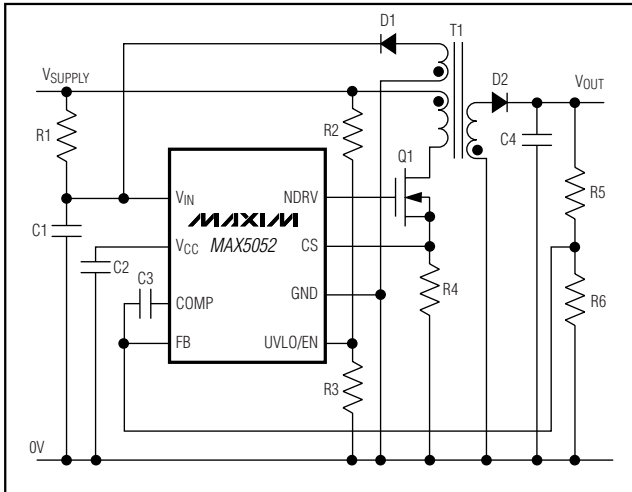
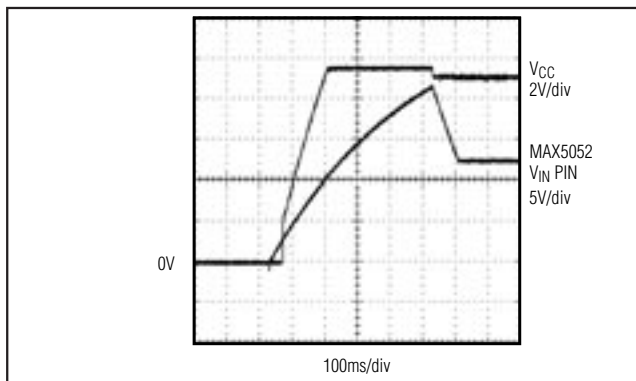

Figure 1. Nonisolated Power Supply with Programmable Input-Supply Start Voltage
Figure 2.  $V_{IN}$  and  $V_{CC}$  During Startup when Using the MAX5052 in Bootstrapped Mode (Figure 1)
**Note 3:** The MAX5052 is intended for use in universal input power supplies. The internal clamp circuit is used to prevent the bootstrap capacitor (C1 in Figure 1) from charging to a voltage beyond the absolute maximum rating of the device when EN/UVLO is low. The maximum current to  $V_{IN}$  (hence to clamp) when UVLO is low (device in shutdown) must be externally limited to 2mA, max. Clamp currents higher than 2mA may result in clamp voltage higher than 30V, thus exceeding the absolute maximum rating for  $V_{IN}$ . For the MAX5053, do not exceed the 24V maximum operating voltage of the device.
Power supplies designed with the MAX5052 use a high-value startup resistor, R1, that charges a reservoir capacitor, C1 (see Figure 1). During this initial period, while the voltage is less than the internal bootstrap UVLO threshold, the device typically consumes only 45μA of quiescent current. This low startup current and the large bootstrap UVLO hysteresis helps to minimize
Use this UVLO function to program the input-supply start voltage. For example, a reasonable start voltage for a 36V to 72V telecom range might be set at 34V. Calculate the divider resistor values, R2 and R3 (see Figure 1) by using the following formulas:
Normally  $V_{IN}$  is derived from a tertiary winding of the transformer. However, at startup there is no energy delivered through the transformer, hence, a special bootstrap sequence is required. Figure 2 shows the voltages on  $V_{IN}$  and  $V_{CC}$  during startup. Initially, both  $V_{IN}$  and  $V_{CC}$  are 0V. After the line voltage is applied, C1 charges through the startup resistor, R1, to an intermediate voltage. At this point, the internal regulator begins charging C2 (see Figure 1). The MAX5052 uses only 45 $\mu$ A of the current supplied by R1, and the remaining input current charges C1 and C2. The charging of C2 stops when the  $V_{CC}$  voltage reaches approximately 9.5V, while the voltage across C1 continues rising until it reaches the wake-up level of 21.6V. Once  $V_{IN}$  exceeds the bootstrap UVLO threshold, NDRV begins switching the MOSFET and transfers energy to the secondary and tertiary outputs. If the voltage on the tertiary output builds to higher than 9.9V (the bootstrap UVLO lower threshold), then startup has been accomplished and sustained operation commences.
The  $V_{IN}$  bypass capacitor, C1, supplies current immediately after wake up (see Figure 1). The size of C1 and the connection configuration of the tertiary winding determine the number of cycles available for startup. Large values of C1 increase the startup time but also supply gate charge for more cycles during initial start-up. If the value of C1 is too small,  $V_{IN}$  drops below 9.9V because NDRV does not have enough time to switch and build up sufficient voltage across the tertiary output which powers the device. The device goes back into UVLO and does not start. Use a low-leakage capacitor for C1 and C2.
The above startup method is applicable to a circuit similar to the one shown in Figure 1. In this circuit, the tertiary winding has the same phase as the output windings. Thus, the voltage on the tertiary winding at any given time is proportional to the output voltage and goes through the same soft-start period as the output voltage. The minimum discharge voltage of C1 from 22V to 10V must be greater than the soft-start time of 60ms.
The MAX5052/MAX5053 include an internal error amplifier that can be used to regulate the output voltage in the case of a nonisolated power supply (see Figure 1) Calculate the output voltage using the following equation: